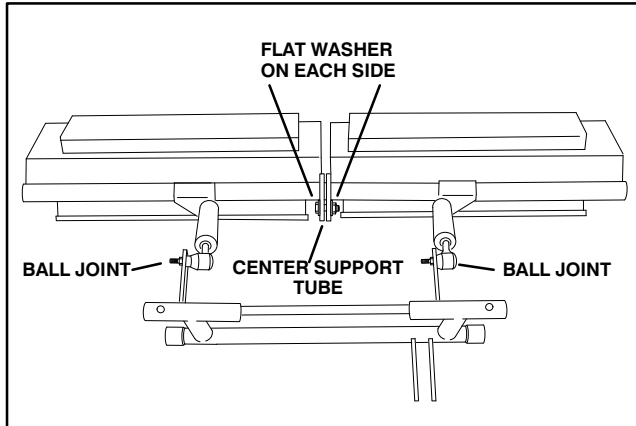

Figure 1
1. Attach ball joint ends of spiking units to the mounting frame with the castellated nuts and secure with cotter pins (Fig. 1).
2. Secure center of spiking units together with a large capscrew, (2) flatwashers, center support tube and locknut (Fig. 1).